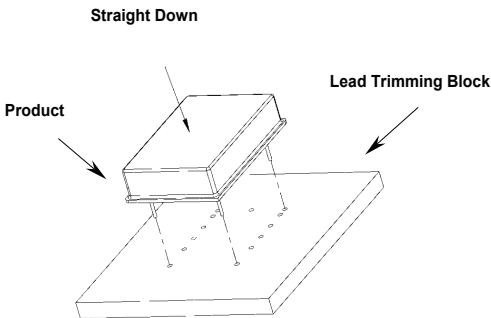

Figure 1
2. **Insertion into the trimming fixture.** The product should be inserted straight down over the pins until it sits flat on the trimming fixture, ensuring only the lead length to be trimmed, or waste area, is visible from the other side. See Figure 1.